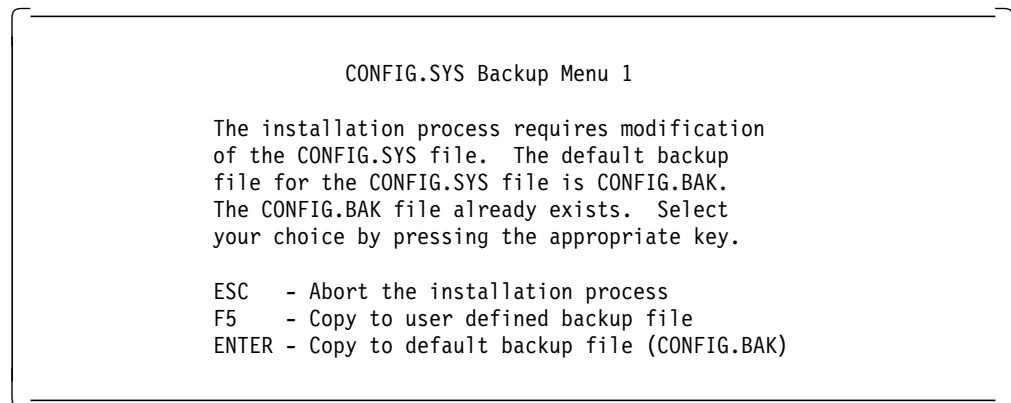

Figure 76. CONFIG.SYS Backup Menu 1
Note: If you did not choose to install the MVDM support then Figure 76 on page 125 will be displayed.
5. Press Enter and Figure 76 will be displayed.